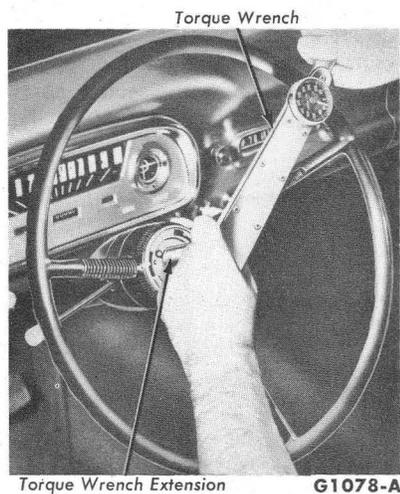

FIG. 2—Steering Gear Load Check
7. Measure the worm bearing preload by attaching an inch-pound torque wrench to the steering wheel nut (Fig. 2). Read the pull required to keep the wheel moving for at least one complete turn. If the torque or preload is not within specifications (Group 17), adjust as explained in the next step.
11. Turn the sector adjusting screw clockwise until the specified pull (Group 17) is necessary to rotate the worm past its center (Fig. 2). No perceptible backlash is permissible at 30° on either side of center.